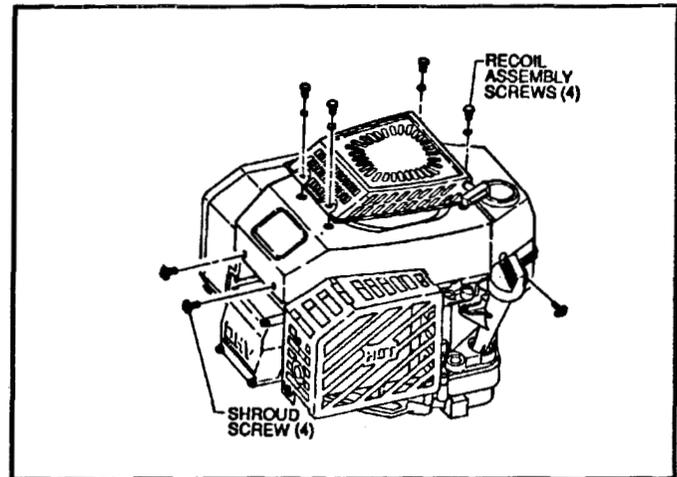

Figure 38
1. Remove the four 5/16" hex, washer head screws retaining the recoil starter to the blower housing. See Figure 38.
2. Lift the blower shroud off the engine. See Figure 38.